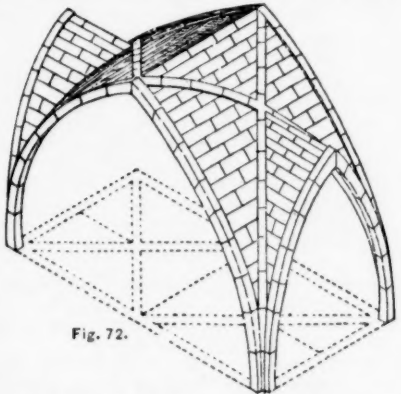

Fig. 71.
e. The same ribs as above, but the vault is domical. The apex of the wall ribs is often lower than that of the main. (Fig. 71.)